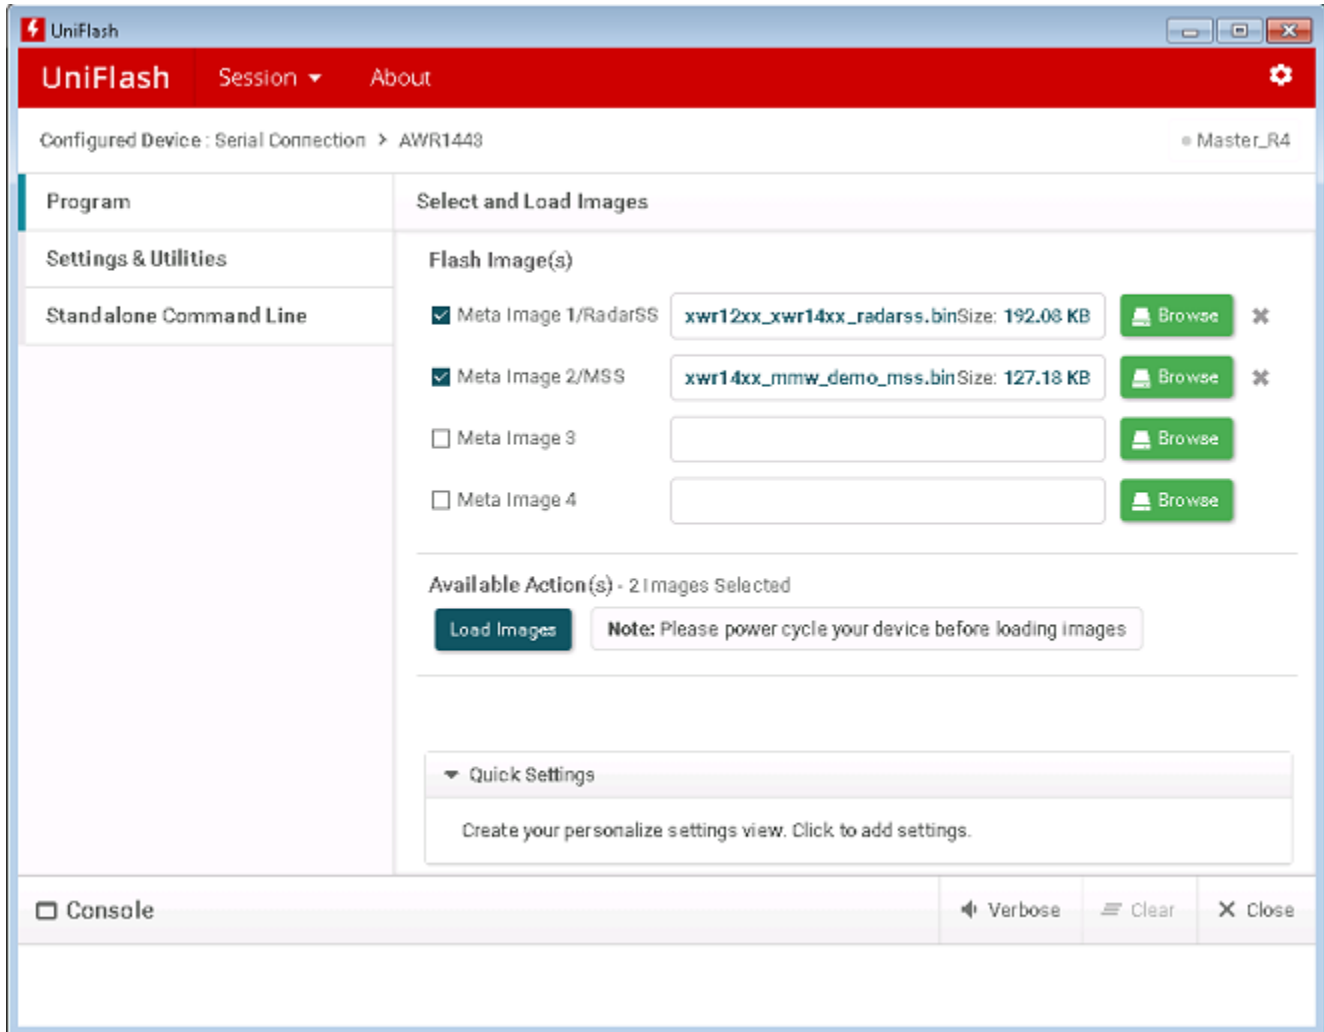

Figure 6: Image Selected for Flashing for AWR1443
- Figure 6: Image Selected for Flashing for AWR1443
Choose an image to flash by clicking the **Browse** button or the box beside the file labels. The labels beside each file box indicate the type of file which should be specified. This is critical for devices which employ META Images (META\_FILE1, META\_FILE2, META\_FILE3 and META\_FILE4). For other devices, the ordering of files is not important. Figure 6 shows the selection of 2 images to be flashed to an AWR1443 device.